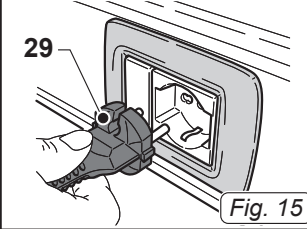

Fig. 15
- Insert the plug (29 Fig.15) into the socket.